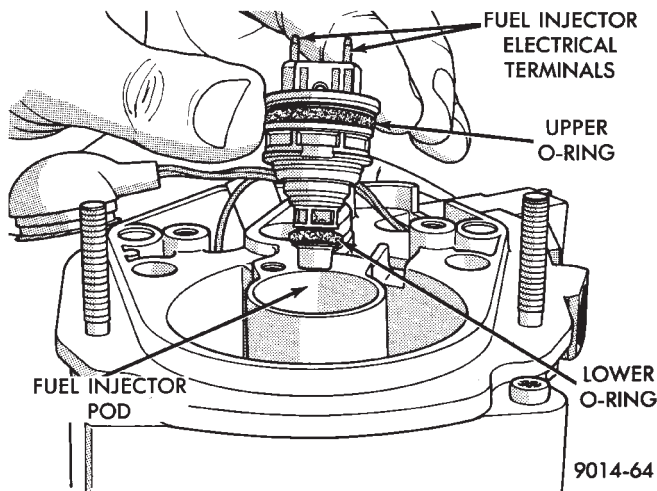

Fig. 9 Servicing Fuel Injector
(7) Ensure the injector lower O-ring has been removed from the pod (Fig. 9).